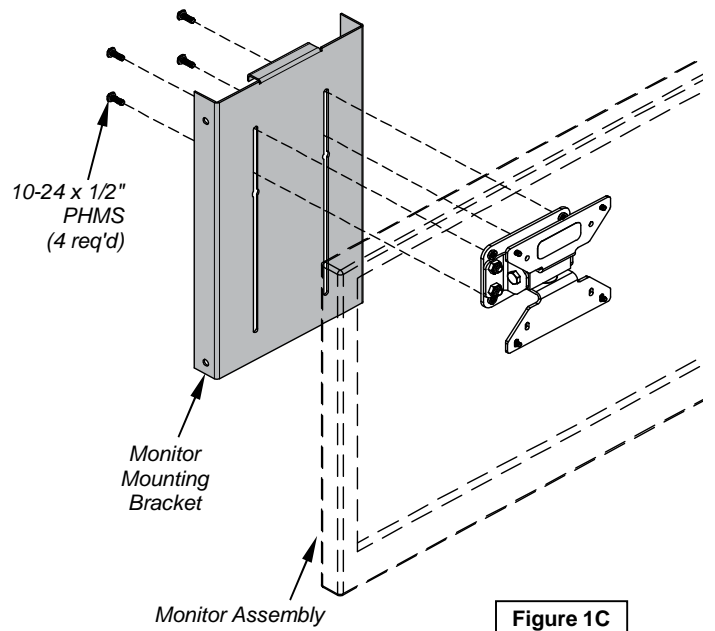

Figure 1C
- E. Attach the monitor assembly to the monitor mounting bracket with (4) 10-24 x 1/2" PHM screws as shown in **Figure 1C.**